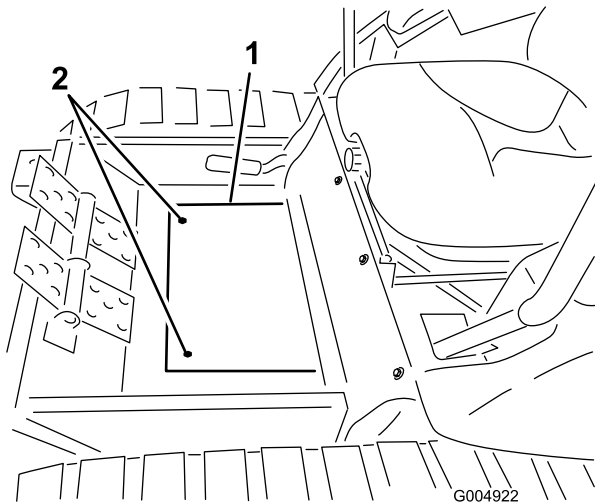

Figure 126
40. Install the winter frame floor plate cover to the floor with the screws previously removed (Figure 126).